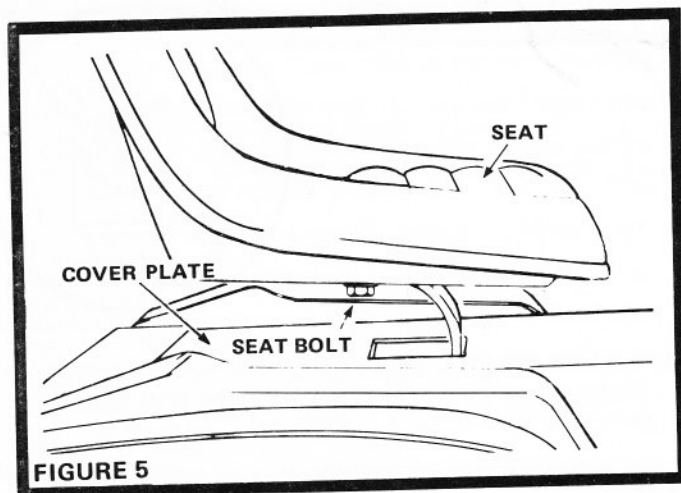

FIGURE 5
- a. Loosen the Bolt beneath the Seat (Fig. 5) and slide the seat forward or backward. Tighten Bolt securely.